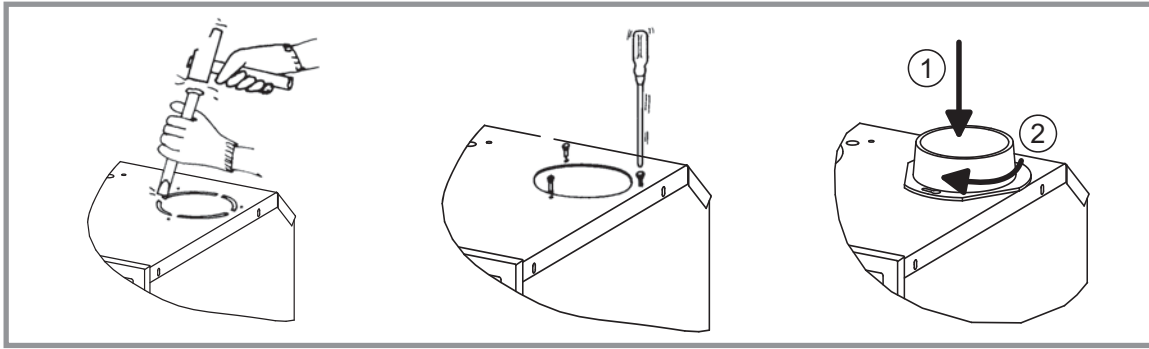

Figure 13 - Hot air outlets
- Remove the blanking plates on the casing on top of the appliance (fig. 13).